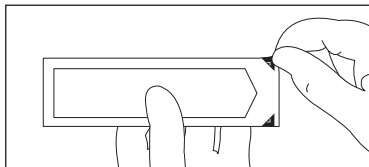

Figure 1
2. Inspect the package to ensure there is no damage and sterility is maintained. Refer to the arrows on the device label to open the package (see Figure 1).